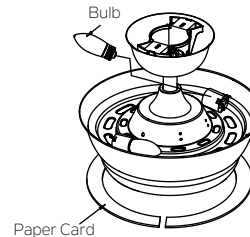

Fig. 18
**Step 4.** Install two (2) lamps 5W (included), one in each socket as shown. (Fig. 18) Remove the paper card from the motor body.